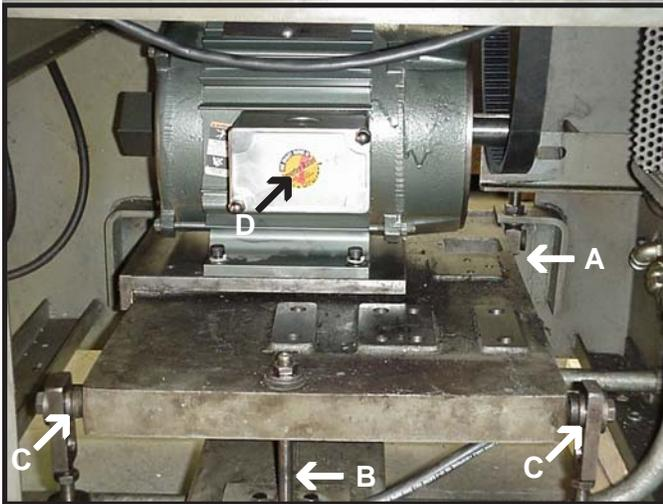

Figure 2.4.1
Remove the bottom nuts from the front 2 leveler bolts (Figure 2.4.1 -A). You will only reuse the washers. Reinstall center jack bolt assembly (Figure 2.4.1 - B). Reinstall the 2 rear side leveler bolts and washers (C). Remove the blocking that was put in earlier when the motor was being removed. Install the motor mounting plate. Mount the new motor to the motor base plate. Connect the spindle motor cable to the motor before installing it in the lathe (Figure 2.4.1 - D).